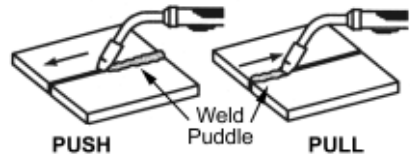

Figure 18. Travel Direction
1. **TRAVEL DIRECTION** is the direction the gun is moved along the weld joint in relation to the weld puddle. The gun is either PUSHED (see Figure 18) into the weld puddle or PULLED away from the weld puddle.